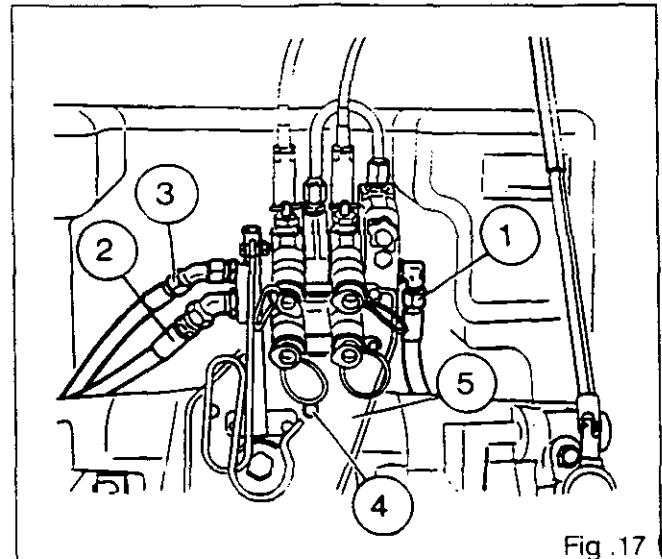

Fig. 17
68. Smear the thread of the two lower screws (4) with Loctite 510. Fit and tighten the bolts (4) in the spool valve support to a torque of 50-70 Nm (Fig. 17).
69. Reconnect (Fig. 17):
- the supply hose (1) to the spool valve
- the supply hose (3) to the lift valve
- the return hose (2)
74. Smear the thread of the sensor (26) with a sealing compound (Hylomar or equivalent), then screw in the sensor a few turns and connect the harness.